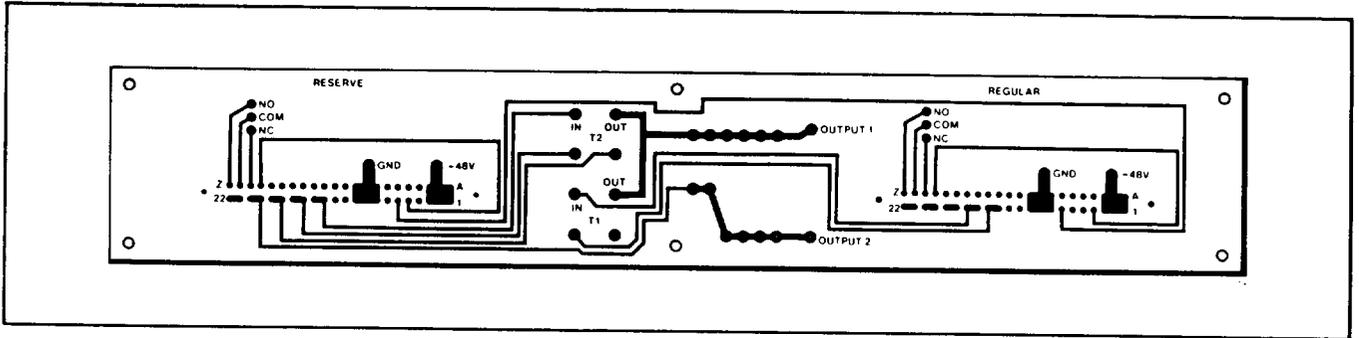
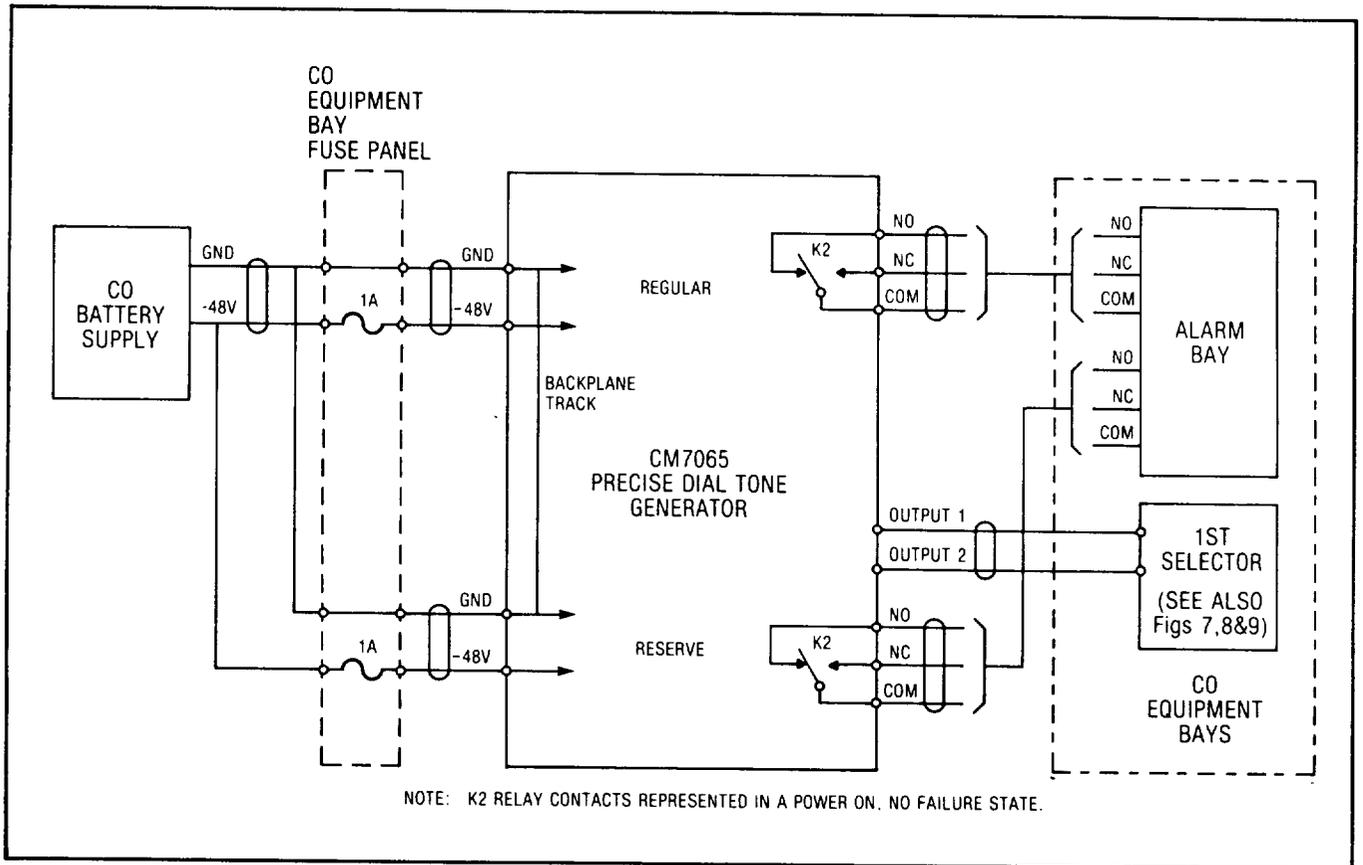
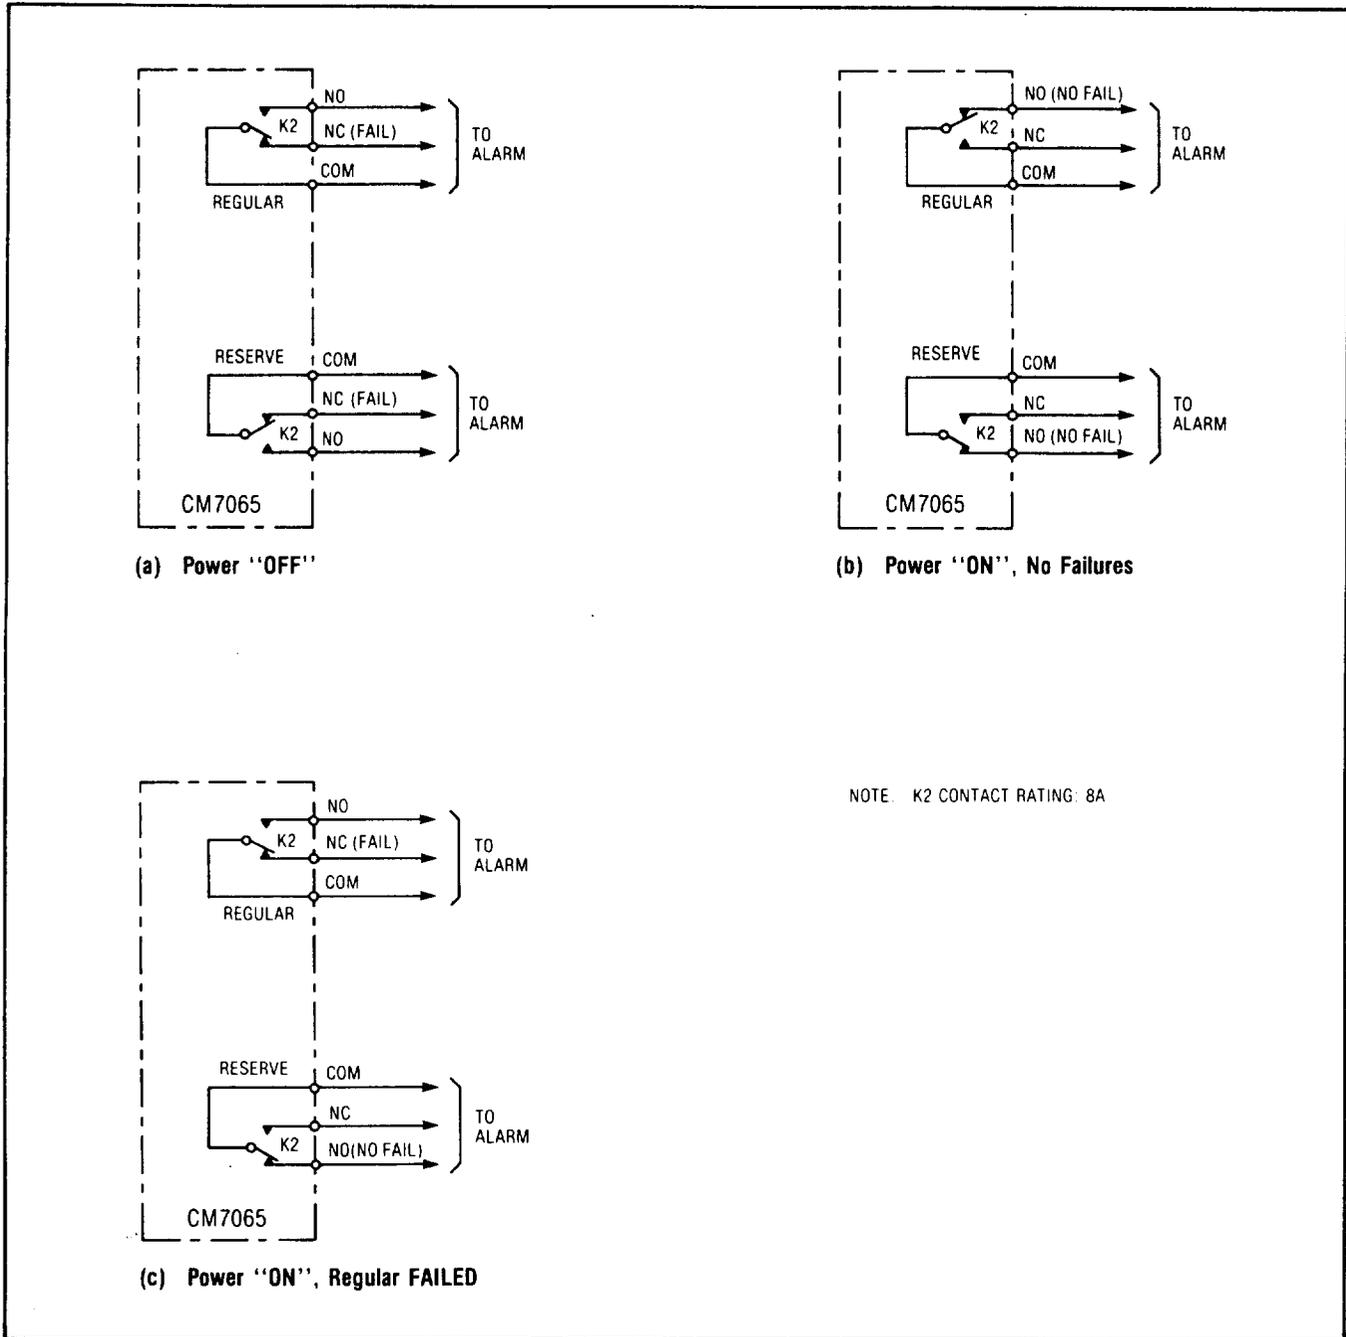

Fig. 5 Backplane Connections
Fig. 6 Typical Connections
Fig. 10 Alarm Relay States
3.07 All connections to the generator are made at the rear of the card file on the backplane. The method of connection is wire wrapping. A general view of the backplane is shown in Fig. 5. Typical unit connections are shown in Fig. 6. Connections should be made only to the posts shown in Table 1.
**3.10** Connections to a set of changeover relay contacts for Regular, and Reserve generators are provided at the backplane. A typical wiring arrangement is shown in Fig. 6. The different relay state combinations are shown in Fig. 10 and are summarized in Table 2. K2 relay contact rating is: